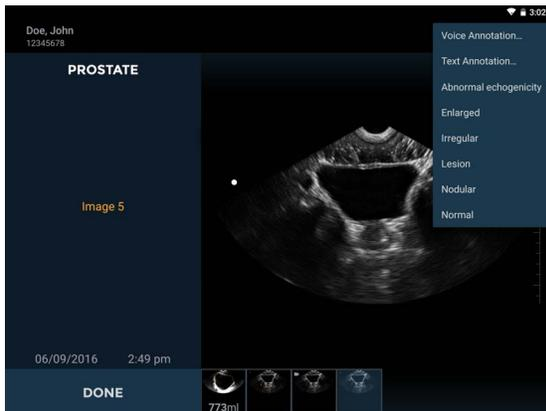

FIGURE 38. Annotation list
3. Select from the predefined set of annotations, or select text or voice annotation for custom annotations (**FIGURE 38. Annotation list**).